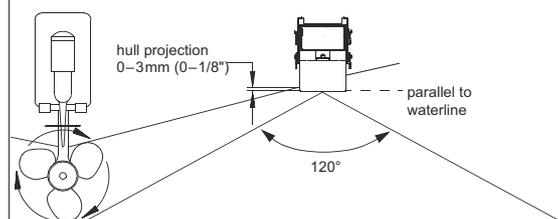
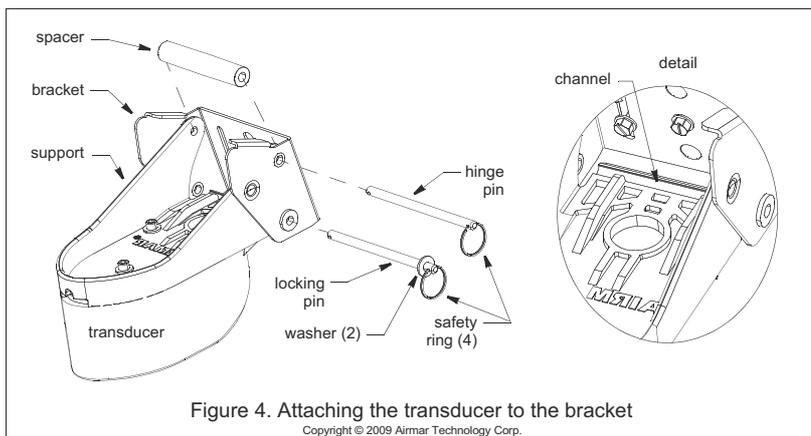

Figure 1. Mounting location on single drive boat
Figure 4. Attaching the transducer to the bracket
- Mounting on the side of the transom where the propeller blades are moving downward is preferred (see Figure 1).
- Single drive —Mount a minimum of 15cm (6") beyond the swing radius of the propeller (see Figure 1).
3. Attach a safety ring to one end of each pin (see Figure 4).
1. At the selected mounting location, position the assembly so the transducer projects 3mm (1/8") below the bottom edge of the transom (see Figure 1). Be sure any shim(s) is in place. (You may want to tape the shim(s) to the bracket temporarily.) With the transducer in the operational position, mark the bottom corners of the bracket.
2. Remove the transducer assembly from the bracket by removing the locking pin and the hinge pin (see Figure 4). Hold the bracket with any shim(s) in place against the transom at the marked location. Draw an "X" at 12mm (1/2") from the top and the bottom of each slot (see Figure 6).
1. Apply marine sealant to the threads of four of the hex-washer-head screws to prevent water seepage into the transom. Being sure any shim(s) is in place, screw the bracket to the hull using a socket wrench (see Figure 4). Do not tighten the screws at this time.
5. Using the vertical adjustment space in the bracket slots, slide the assembly up or down until the bottom inside corner of the transducer projections 0–3mm (0–1/8") below the bottom of the hull (see Figure 1). When you are satisfied with the position of the transducer, tighten the four bracket screws. For clear access to the screws, remove the transducer assembly from the bracket (see Figure 4). When reattaching, be sure to include the spacer.
- b. Move the transducer deeper into the water in increments of 3mm (1/8") (see Figure 1).
3. Fasten the stabilizing screw into place with a socket wrench. For clear access to the screw, remove the transducer assembly from the bracket (see Figure 4). When reattaching the transducer, be sure to include the spacer.